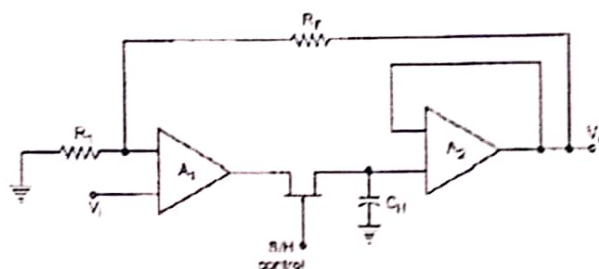

Figure 1: Sample and Hold (S & H) Feedback Circuit
- a) Consider the Sample and Hold (S & H) circuit shown in the Figure 1.
- Briefly explain the operation of the S & H circuit shown in Figure 1.
- Briefly explain why changing the position of the holding capacitor ( $C_H$ ) in Figure 1 to a feedback position around op-amp A2 would provide shorter acquisition times ( $t_{ac}$ ). Your answer should include the new S & H circuit.